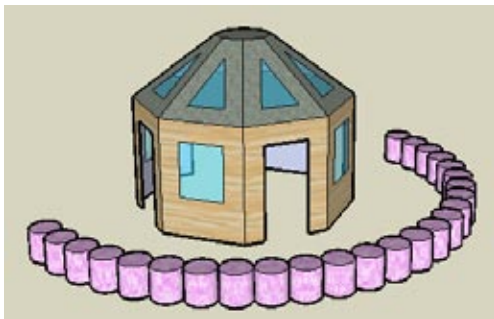

Figure 1-66
6. You can adjust the total rotation angle as well. Enter 180 to set 25 planters spaced within a 180-degree angle. This time there is no overlap between the first and last planters, so you can see all 25 planters (Figure 1-66).